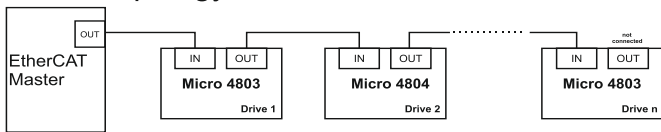

Figure 3-72 EtherCAT network linear topology
- *Figure 3-72* for a visual representation of the linear topology.